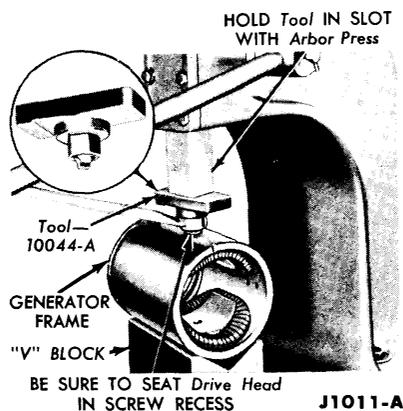

FIG. 9—Pole Shoe Screw Removal
4. Remove the "field" and "ground" terminal screws from the generator frame, and unscrew the field pole shoe screws as shown in Fig. 9. The arbor press prevents the tool from slipping out of the screw socket.
2. Tighten the field pole shoe screws (Fig. 9). As the screws are tightened, strike the frame several sharp blows with a soft faced hammer to seat and align the pole shoes.